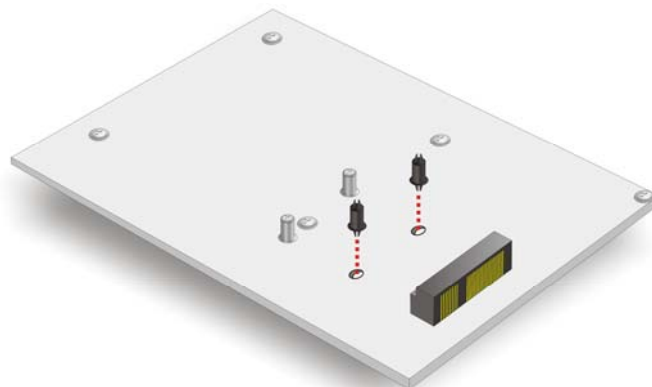

Figure 4-17: Install the Supplied Plastic Shafts
Step 2: **Install the supplied plastic shafts.** Insert the supplied plastic shafts to the screw holes on the motherboard (**Figure 4-17**). Press the plastic shafts down until they clip into place on the motherboard.